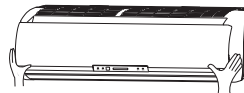

Fig 1
1. Open the inlet grid upwards as shown in Fig 1.